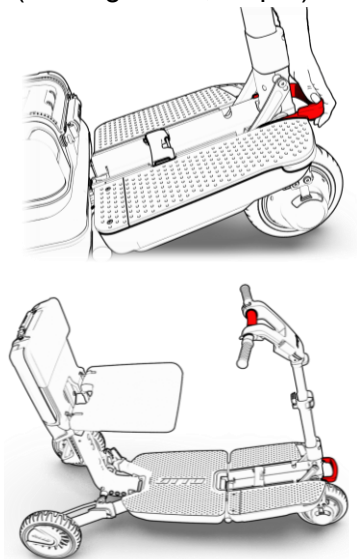

Figure 41
5. Use one hand to keep the rod upright, and with your other hand, release the front lever (see Figure 41, step 1). In case the front lever requires a significant amount of force to operate, apply horizontal pressure on the main handle toward the front of the ATTO (see Figure 41, step 2). This will release pressure on the front lever and will make it easier to open (see Figure 41, step 3).